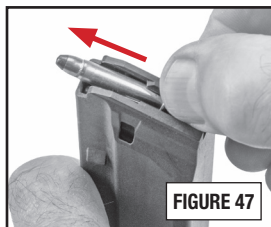

FIGURE 47
- Unload the 30-round capacity magazine by holding it with the bullet end of the cartridge pointing away from you and pressing each cartridge forward and out of the magazine (FIGURE 47). A blunt tool like a wooden dowel or plastic pen works to help with this.